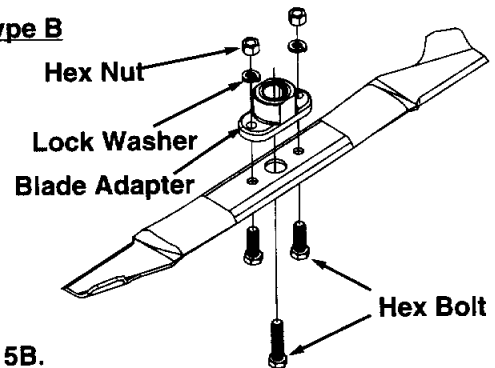

Figure 15B.
1. Assemble the blade adapter to the blade. See Figure 15B for proper order of hardware.